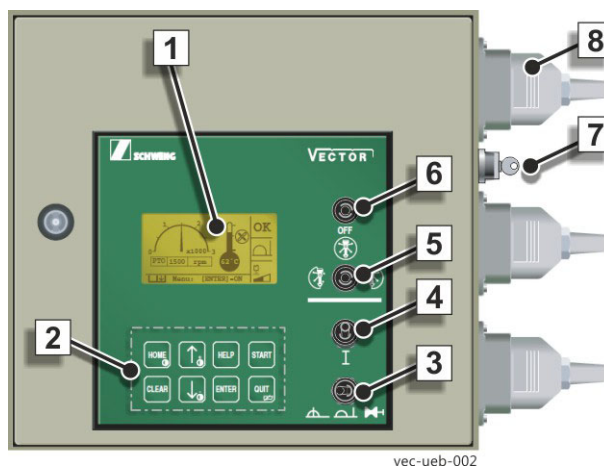

Fig. 365 Switch cabinet of the Vector control system
- Safety fuses in the switch cabinet or control cabinet of the concrete pump, see (Fig. 365), (Fig. 366) and (Fig. 367).